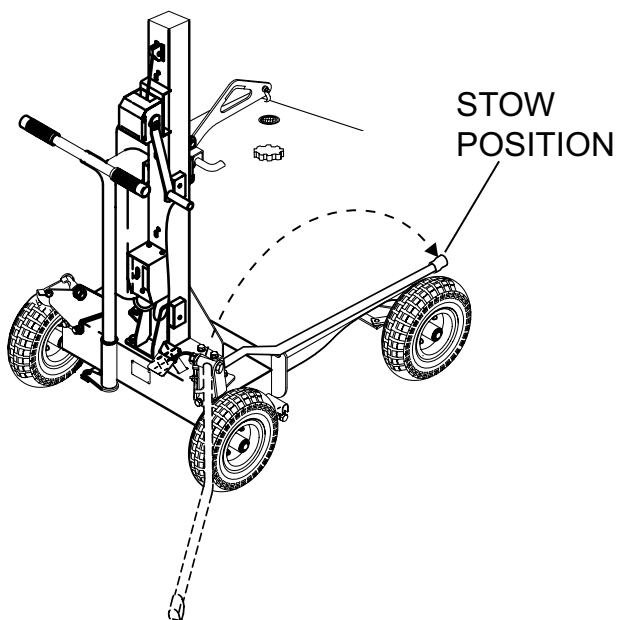

Figure 21. Outriggers (Stow Position)
7. Grab hold of outrigger, pull upward, push down and place in stow position (Figure 21).